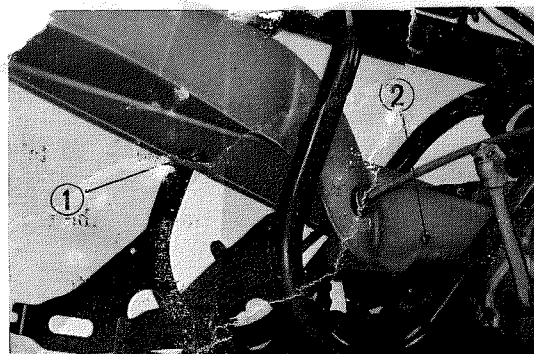

Fig. 74 Rear fender removal
① Fuel tank setting band
7. Remove the rear wheel and rear brake in accordance with section "Rear wheel and rear brake", and then remove the rear fender. (Fig. 74)